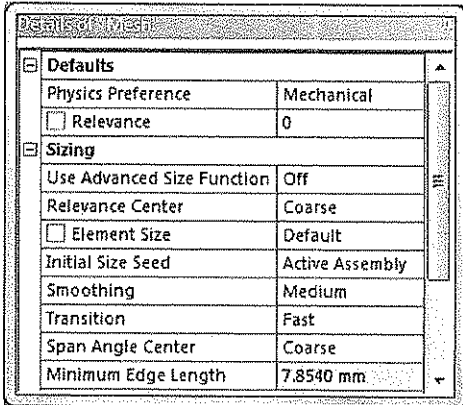

Figure 8-50 The Details of "Mesh" window
- 7. Select **Mesh** in the **Tree Outline**; the **Details of "Mesh"** window is displayed, as shown in Figure 8-50.